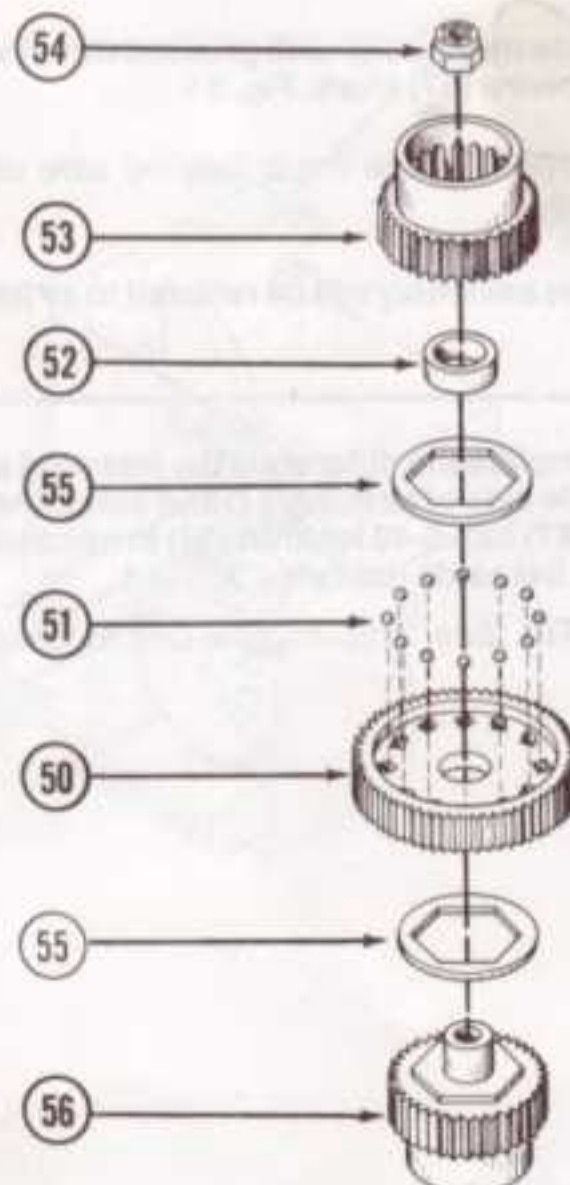

FIG. 20
10. Locate grease container (48) and open. Grease only items that are indicated! Keep grease away from teeth on transmission assembly.
11. Locate center differential gear (50) from small bag. Fig. 20.
12. Insert 3/32" differential gear balls (51) into holes in center differential gear (50). Fig. 20.
13. Using a tooth pick, carefully dab a small amount of grease onto each side of each 3/32" ball (51). Fig. 20.
14. Insert 1/4" x 3/8" bushing (52) into female half of differential (53). Fig. 20.
15. Insert 5-40 lock nut (54) into opposite side of female half of differential (53). Fig. 20.
16. Place one hex thrust washer (55) onto male half of differential (56) and other hex thrust washer (55) onto female half of differential (53). Fig. 20.
17. Assemble differential assembly by placing center differential gear (50) onto male half of differential (56) followed by female half of differential (53). This now becomes assembly D.